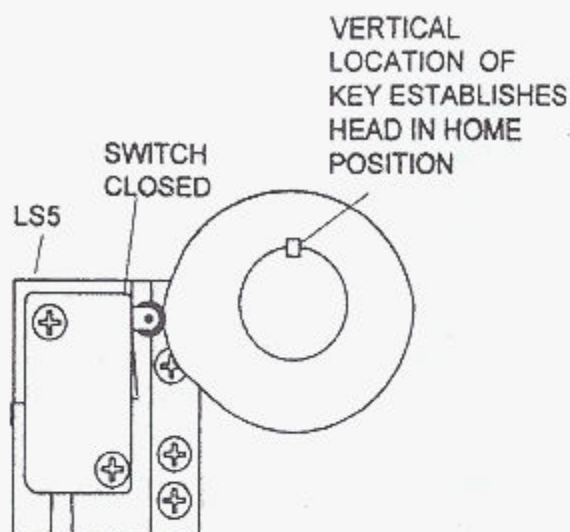

FIGURE 20. LS5
2. If the micro-switches need adjusting, loosen the mounting screws and LS5 as seen in Figure 20. When properly set, tighten the mounting screws.
1. Adjust the clearance of LS5 in relation to the switch cam. Refer to Figure 20.